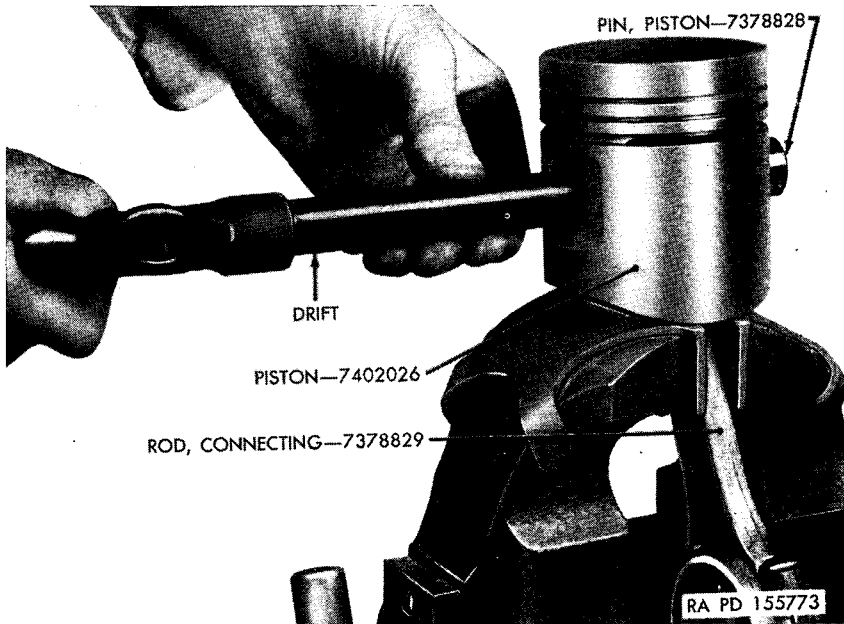

Figure 63. Removing piston pin from piston.
- d. Remove piston pin with drift (fig. 63).